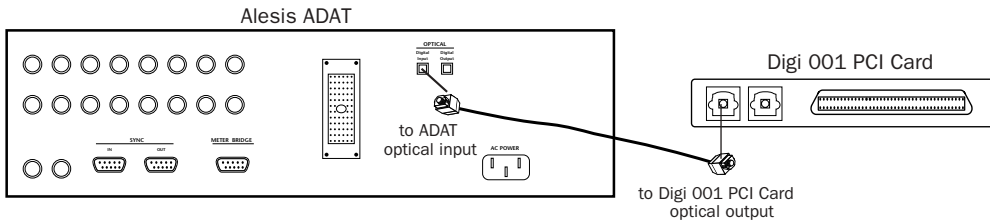

Figure 10. Connecting ADAT optical input to the Digi 001 PCI Card optical output
- 2 Connect the ADAT optical input to the Optical Out port on the Digi 001 PCI Card (see Figure 10 on page 43). When the Digi 001 is on, its Optical Out port emits a red light.